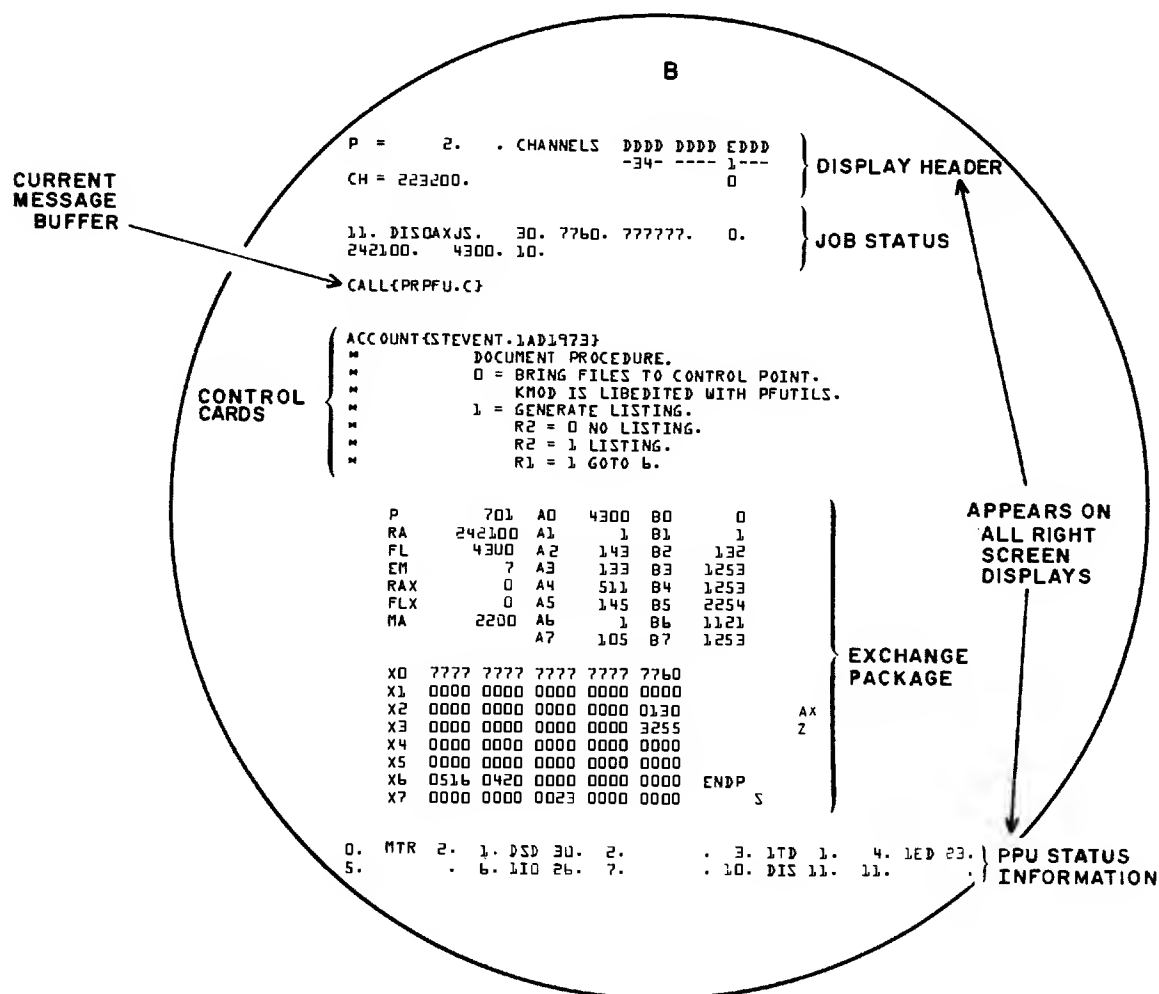

Figure 7-2. DIS Job Status (B) Display
Figure 7-2 illustrates the DIS job status display. The figure shows the job status, current message buffer, job control cards, and exchange package. The job status is a two-line entry in which the first line identifies the control point to which the job is assigned (11), the job identification (DIS0AXJS), CPU priority (30), queue priority (7760), time limit (777777), accumulated CPU time (0 seconds), and the CPU status. The second line of job status contains the central memory reference address (RA=242100), the job's field length (4300), and assigned equipment (10 - the display console).
Although this figure shows the B display on the right console screen, it may also be displayed on the left screen. All DIS displays may appear on either console screen. The header information illustrated in Figure 7-2 appears on all right screen displays. In addition, at the bottom of the right screen, each PPU is represented by an entry for the program currently running and the control point to which the program is assigned (PPU status information in figure). PPU 0 and PPU 1 are dedicated to monitor (MTR) and DSD, respectively. The header and PPU status information for DIS right screen displays is identical to that displayed for DSD right screen displays (refer to description of DSD B display in section 4 for complete information).